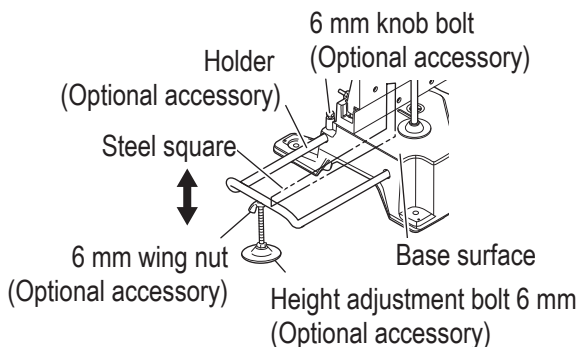

Fig. 34
- (1) As indicated in **Fig. 34**, use a steel square for aligning the upper edge of the holders with the base surface.